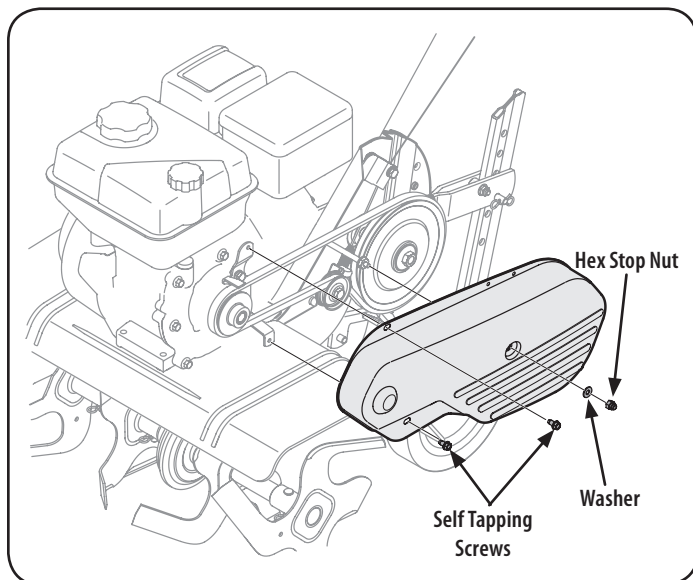

Figure 27
1. Remove the belt cover from the left side of the tiller by removing the two self tapping screws and hex stop nut and washer. See Figure 27.
**NOTE:** Upon reassembly, make certain that the idler pulley keeper is as shown in Figure 27. Take note of the notch on the bottom of the keeper and the alignment when reassembling with the replacement belt.